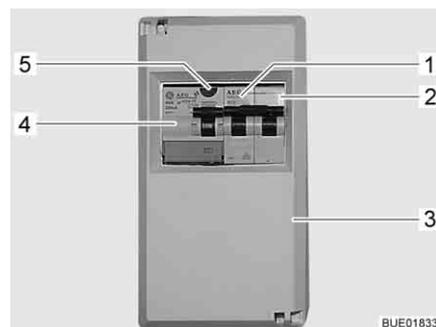

Fig. 154 230 V fuse box with safety cut-out and FI-switch
A fault current protection switch (FI-switch) (Fig. 154,4) in the fuse box (Fig. 154,3) protects the complete vehicle from fault current (0.03 A).
The downstream safety cut-out (10 A) (Fig. 154,2) secures the 230 V sockets, the power supply unit, the auxiliary charging unit and the refrigerator.
For vehicles with special equipment, e.g. air conditioning unit, an additional safety cut-out (16 A) (Fig. 154,1) secures the device.
- When the vehicle is connected to the 230 V power supply, press the test button (Fig. 154,5). The fault current protection switch (FI-switch) must be activated.